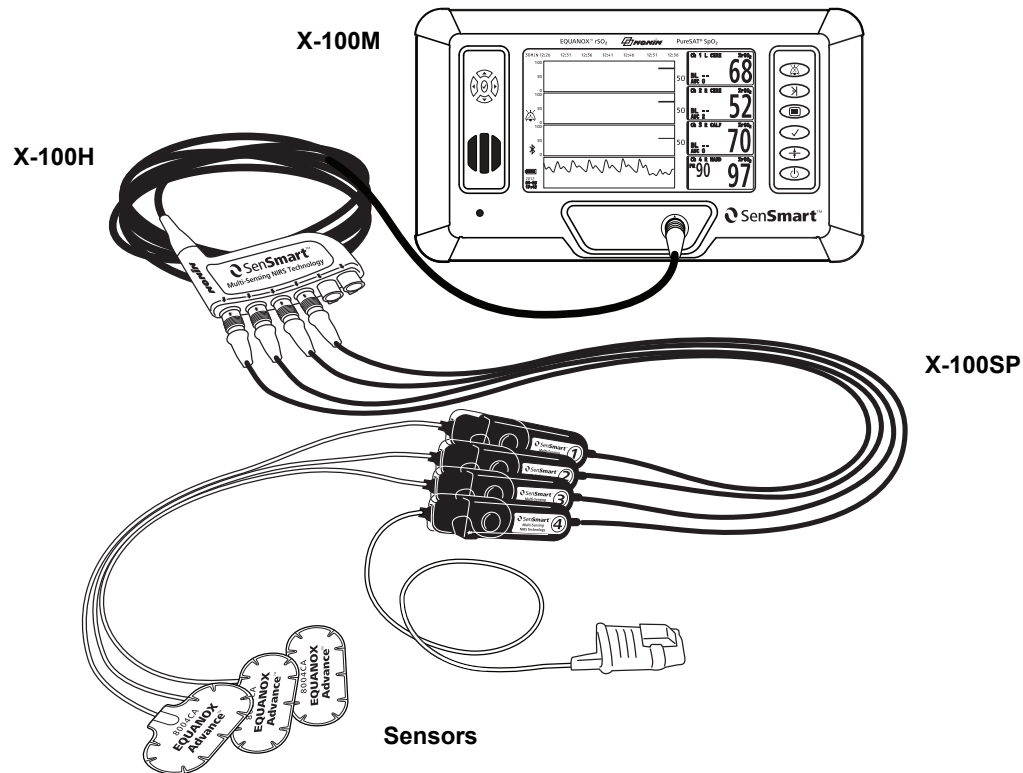

Figure 4. System Set Up (≥40 kg Sensors, 4 Channels Connected)
- The example in figure 4 shows a system set up using regional sensors for patients weighing ≥ 40 kg. These sensors (8003CA, 8004CA) connect directly to the X-100SP signal processor. The 8100S(X) pulse oximetry sensor connects directly to the signal processor.